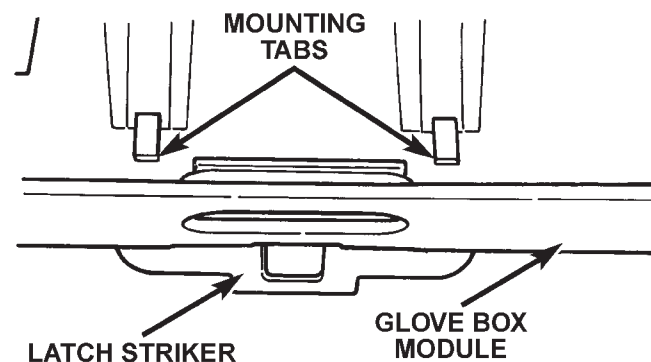

Fig. 14 Glove Box Latch Striker Remove/Install
(1) Remove the glove box module as described in this group.
(2) From the top of the glove box module, straighten the two mounting tabs that secure the striker to the module (Fig. 14).